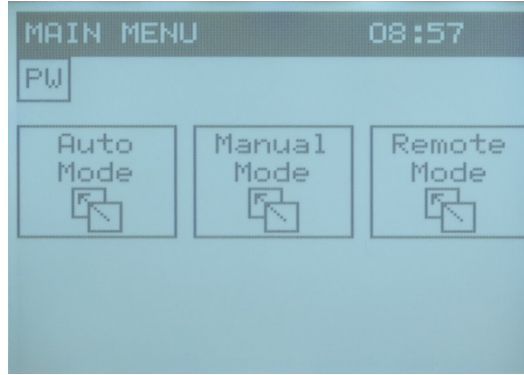

Figure 25: Main menu screen
3. When the keypad entry screen appears, enter the passcode for the desired user access level and then press **Enter** (see Figure 25)
4. You will now return to the previous screen (see Figure 25). Press **Login**. You are now logged in under the selected user access level